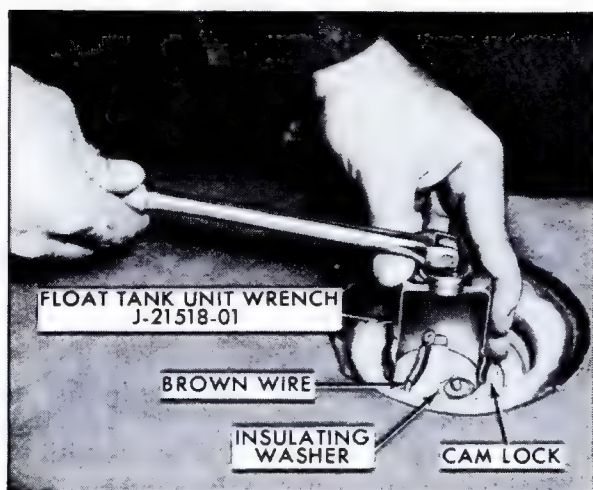

Fig. 12-31 Removing Float Tank Unit (693)
5. Using Float Tank Unit Wrench, J-21518-01, remove cam lock as shown in Fig. 12-31.
3. Using Float Tank Unit Wrench, J-21518-01 install cam lock as shown in Fig. 12-31. Be sure